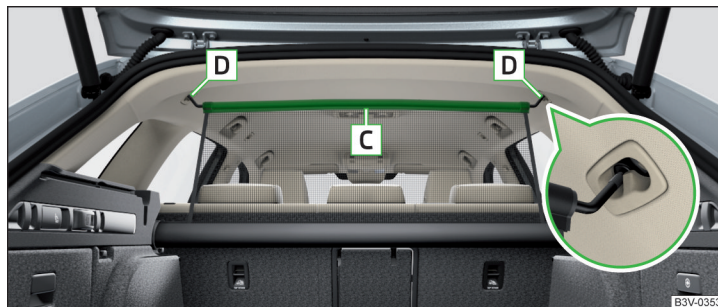

Fig. 162 Correctly secure net partition behind the front seats in the pulled-out state
- › Pull out the net partition at the crossbar **C**, insert in one of the mountings **D** and push forwards » Fig. 162.
- › First pull the crossbar back slightly on the one side and then on the other side and remove it from the mountings **D** » Fig. 162.